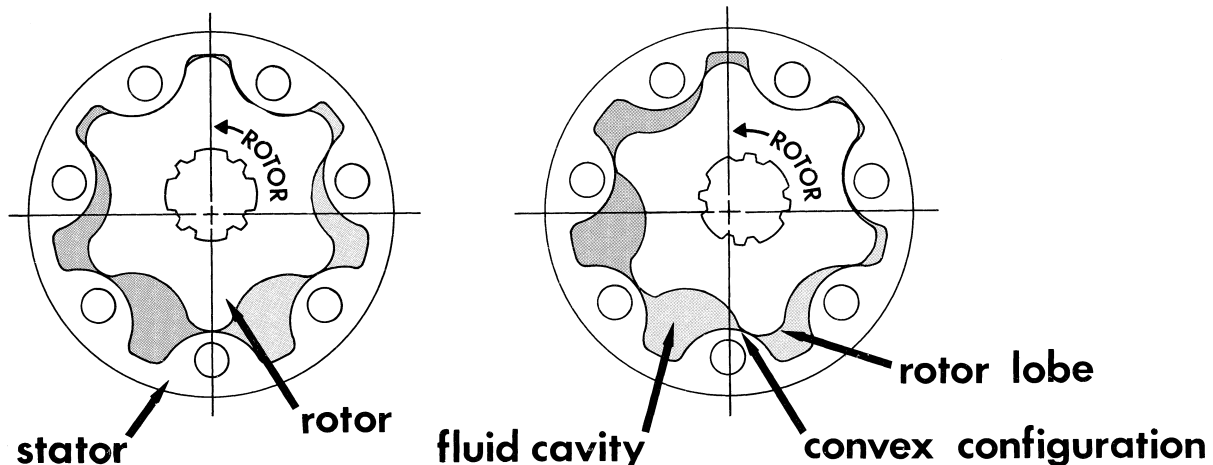

Figure HGA-3
**ROTOR OPERATION IN THE ROTOR SET (See Fig. HGA-3)**